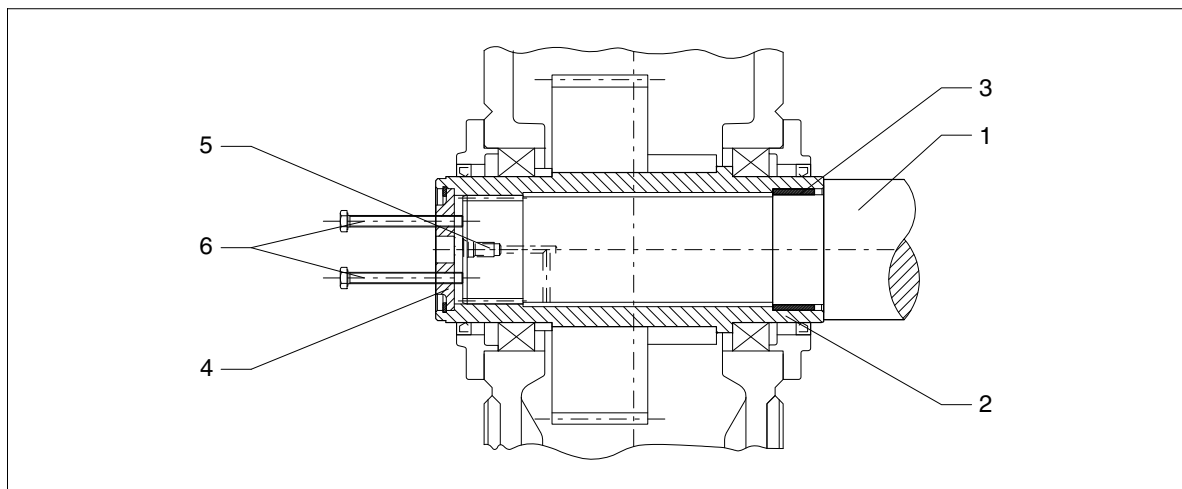

Fig. 39: Hollow shaft with internal spline, demounting with end plate
- If frictional corrosion has occurred on the seating surfaces, rust-releasing agent may be used in order to facilitate forcing off the gear unit. The rust releaser can be injected through the pressure-oil connection (see figures 39 and 40), e.g. using a pump.
- preferably using forcing screws in an end plate (see figure 39) or